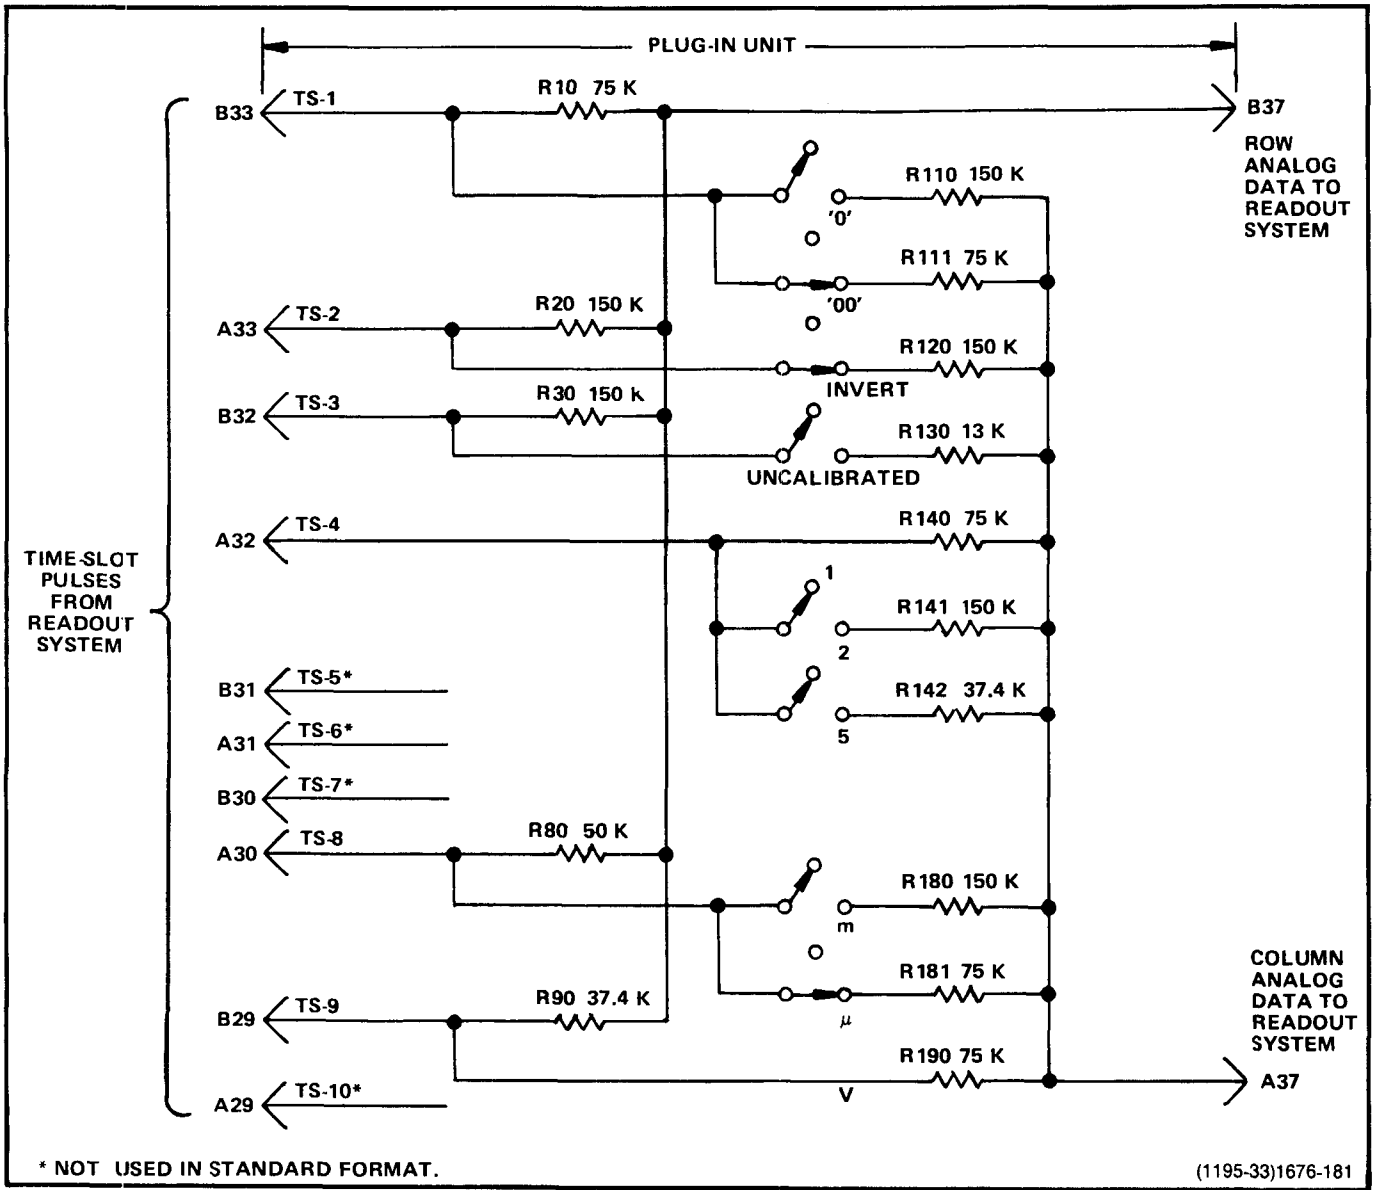
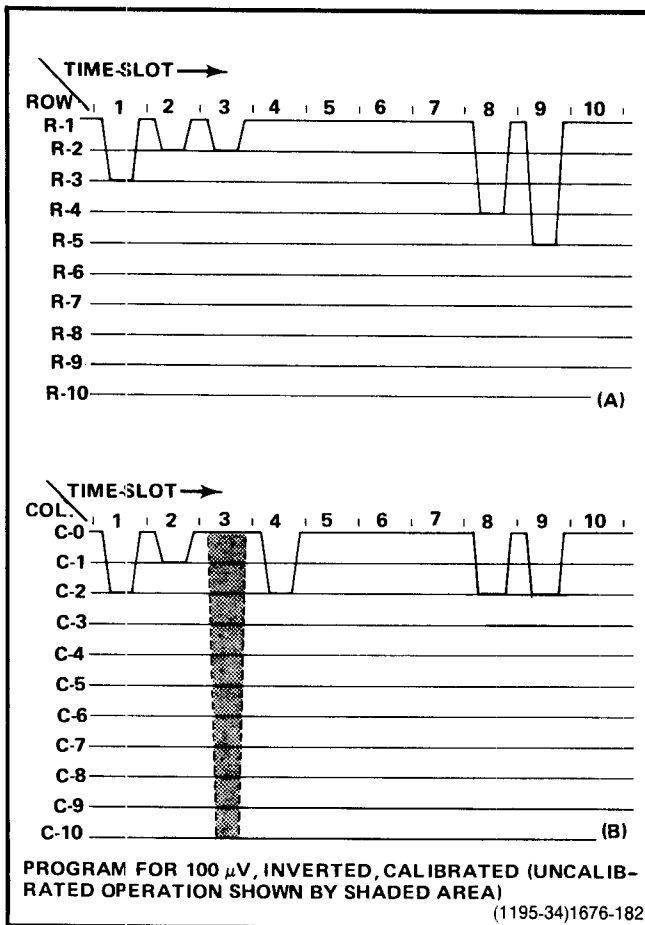

Fig. 3-31. Typical encoding scheme for voltage-sensing plug-in unit. Coding shown for deflection factor of 100 μ V.
Fig. 3-32. Idealized current waveforms of (A) Row analog data and (B) Column analog data.
Data is conveyed from the plug-in units to the Readout System in the form of an analog (current level) code. The characters that can be selected by the encoded data are shown on the Character Selection Matrix (see Fig. 3-26). Each character requires two currents to define it; these currents are identified as the column current and the row current, corresponding to the column and row of the matrix. The column and row data is encoded by programming the plug-in units. Figure 3-31 shows a typical encoding scheme using resistors for a voltage-sensing amplifier plug-in unit. Notice that the 10 time-slot (TS) pulses produced by the Time-Slot Counter stage are connected to the plug-in unit.
For example, in Fig. 3-31 resistors R10 through R90 control the row analog data, which is connected back to the Readout System. Figure 3-32 shows an idealized output current waveform of row analog data, which results from the time-slot pulses. Each of the row levels of current shown in these waveforms correspond to 100 μ A of current. The
The Column analog data is defined by resistors R110 through R190. The program resistors are connected to the time-slot lines by switch closures to encode the desired data. The data as encoded by the circuit shown in Fig. 3-31 indicates a 100 μ V sensitivity with the crt display inverted and calibrated deflection factors. This results in the idealized output current waveforms shown in Fig. 3-32 at the column analog data output, terminal A37 of the plug-in interface.
In the above example, the row analog data was programmed to define which row of the Character Selection Matrix was addressed to obtain information in each time-slot. The column data changes to encode the applicable readout data as the operating conditions change. For example, if the variable control of the plug-in unit was activated, R130 would be connected between time-slot 3 and the column analog data output line. This encodes 10 units of column current (see shaded area in time-slot 3 of the waveform shown in Fig. 3-32). Since one unit of row current is also encoded during this time-slot by R30, a > (greater than) symbol is added to the display. The crt readout will now show $\downarrow > 100 \mu V$. In a similar manner, the other switches can change the encoded data for the column output and thereby change the readout display. See the following description for decoding this information.
The column analog data encoded by most plug-in units can be modified by attenuator probes connected to the input connectors of amplifier plug-in units. A special coding ring around the input connector of the plug-in unit senses the attenuation ratio of the probe (with readout-coded probes only). The probe contains a circuit that provides additional column current. For example, if a 10X attenuator probe is connected to a plug-in unit encoded for $100 \mu V$ as shown in Fig. 3-32, an additional unit of current is added to the column analog data during time-slot 1. Since two units of current were encoded by R111 (see Fig. 3-31), this additional current results in a total of three units of column analog current during this time-slot. Referring to the Character Selection Matrix, three units of column current, along with the two units of row current encoded by R10, indicates that the prefix should be shifted one column to the left. Since this instruction occurs in the same time-slot that previously indicated that two zeros should be added to the display and only one instruction can be encoded during a time-slot, the zeros do not appear in the display. The crt readout will now be changed to 1 mV (readout program produced by plug-in same as for previous example).
umn Decoder. Notice on the Character Selection Matrix of Fig. 3-26 that when row 4 is programmed, a reduction of one column results in a one-column shift of the prefix. For example, with the 100 μ V program shown in Fig. 3-31, if the data received from the plug-in called for a shift in prefix, the crt readout would be changed to 1 mV (zeros deleted by program; see Encoding the Data).